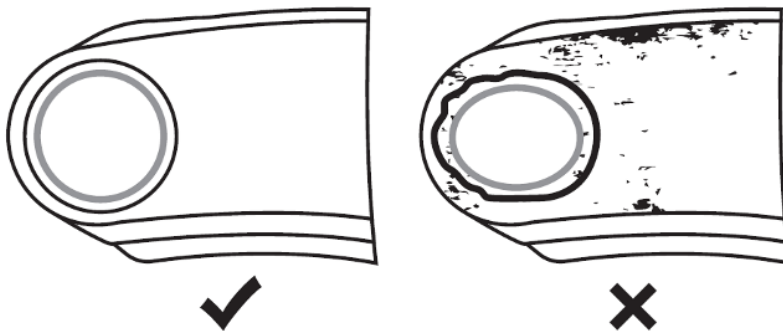

Figure 1.
- Before installation of ball joint, ensure all mating surfaces are clear of rust, debris and burrs. Inspect control arm mounting flange for cracks, deformation and or an out of round condition. Do not reuse control arm body if these are found. **See Figure 1.**